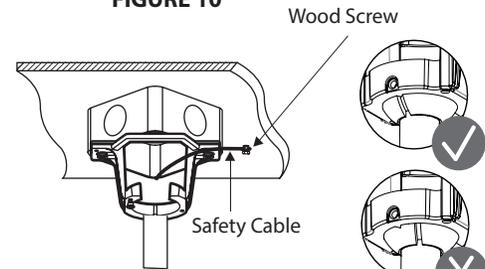

FIGURE 11
3. Carefully lift the fan motor assembly up to the mounting bracket and seat the hanger ball in the mounting bracket socket. Make sure the tab on the mounting bracket socket is properly seated in the groove in the hanger ball (Fig. 11). Rotate the socket assembly until the ball drops and locks into the hanger bracket screw.
4. Secure the safety cable to the building structure using a wood screw (not included) (Fig. 11).